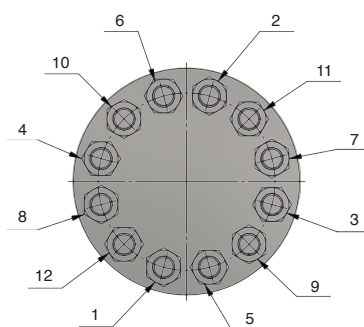

Figure D.2.29 - Recommended re-tighten order
- For high temperature and high-pressure applications after 24 hours of operation, all nuts shall be re-tightened diametrically opposite to design stress Figure D.2.29. This action compensates for any relaxation or creep. Periodic inspection is recommended, thereafter.